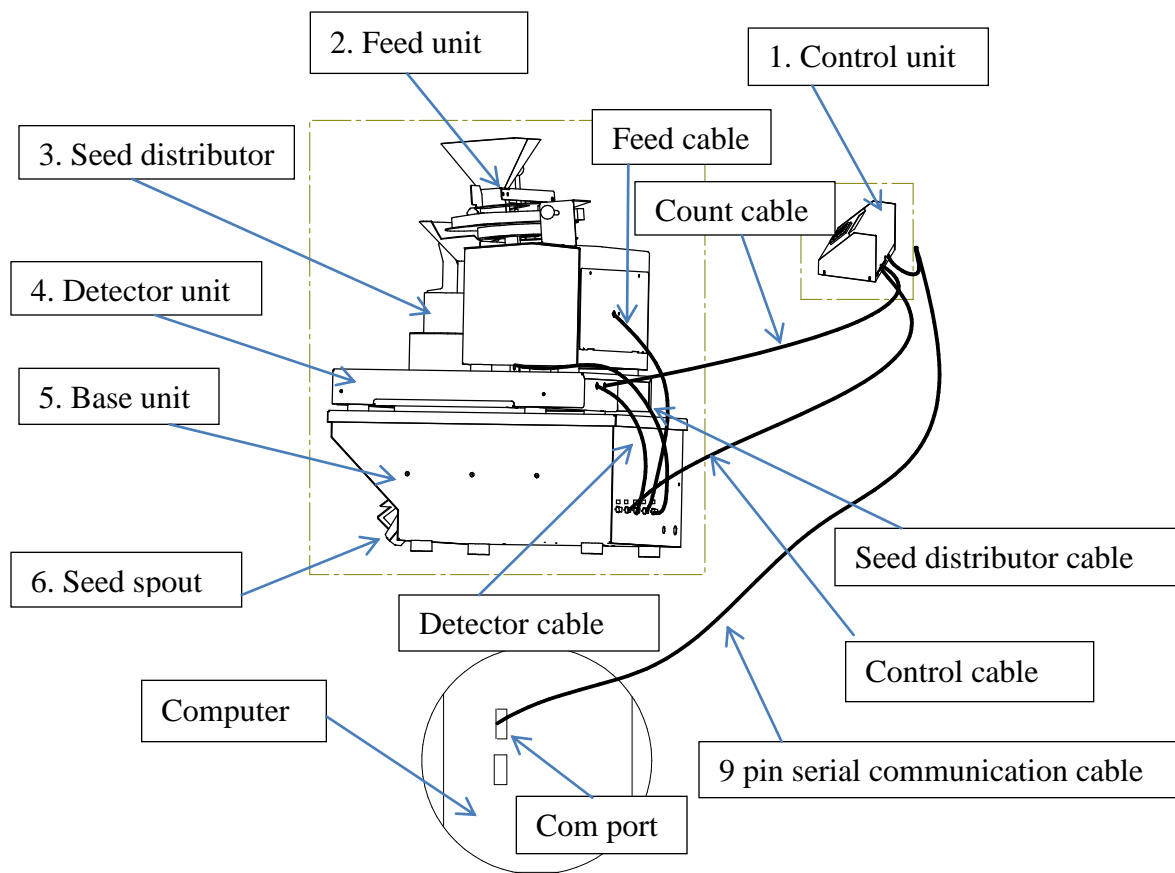

Figure 1 Esc-2 Seed Counter Setup Demo Figure
- Setup all parts of 'ESC-2 Seed Counter as shown in Figure 1 (page 6) and connect all cables to each respective port.